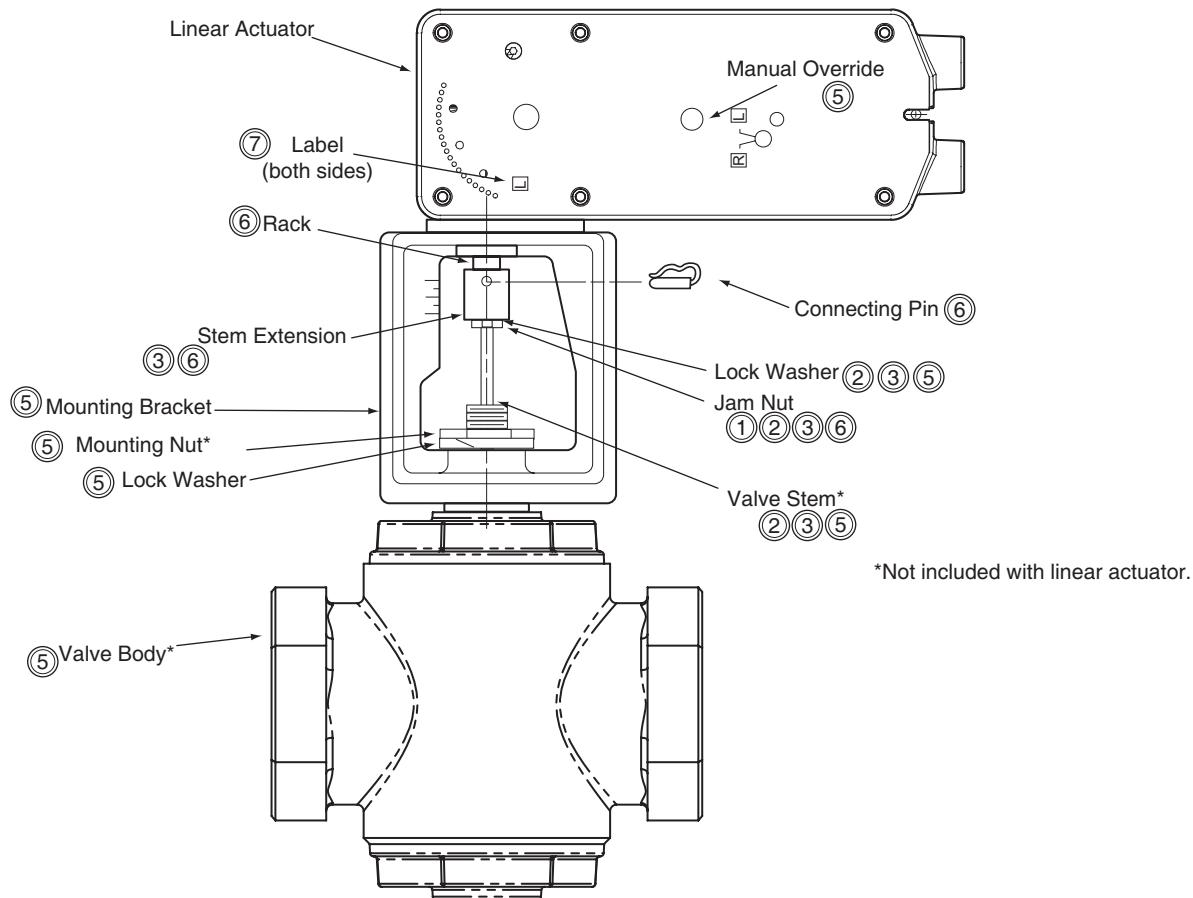

Figure-13 Typical Assembly and Installation.
1. Install the actuator onto the valve. Set up the assembly according to the numbered steps in Figure-13.